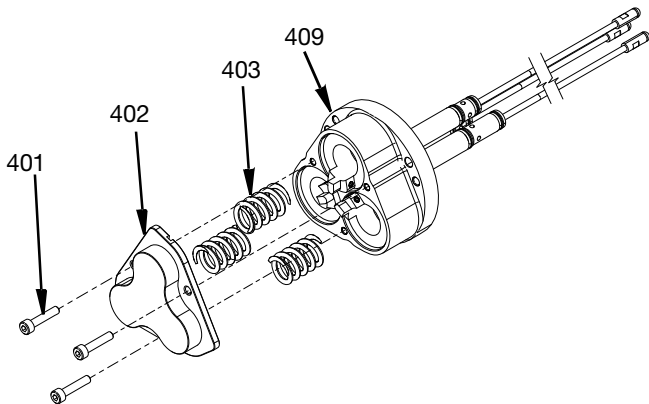

FIG. 33
9. Install springs (403) and cylinder cover (402). Install M4 SHCS screws (401) through cylinder cover into air cylinder housing (409). Apply anti seize to screws (401), and tighten down M4 SHCS screws (401) evenly to compress springs without binding assembly. Torque M4 screws to 29.2 in-lb (6.5 N•m). See FIG. 33.